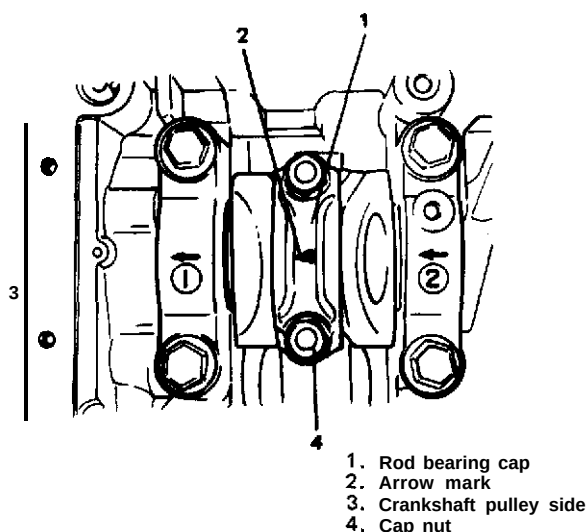

Fig. 3-5-36 Installing bearing cap
4) Install rod bearing cap to connecting rod. When installing cap, be sure to point arrow mark on cap to crankshaft pulley side, as indicated in Fig. 3-5-36. Tighten the cap nuts to the specified torque, DO NOT turn crankshaft with gaging plastic installed.